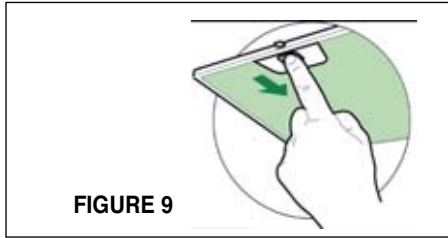

FIGURE 9
1. Remove the grease filters from the unit and set aside. The grease filters are removed by pressing the handle in front of the filter (**FIGURE 9**). When replacing, make sure that the filters are properly positioned with the handles in front and visible.